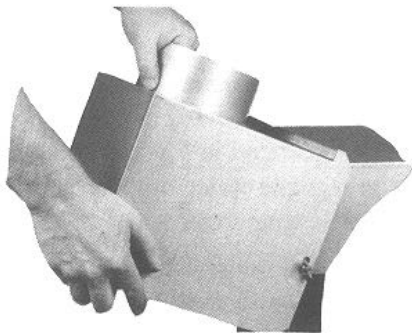

Figure 19: Draft Hood Attachment
2. Position Draft Hood on Canopy Rear Flange. See Figure 19. Top canopy flange must fully engage "U"-shaped draft hood flange for proper installation and operation. Care must be taken to assure that draft hood is level.